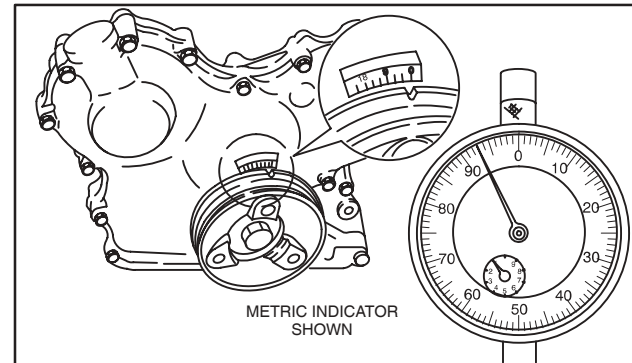

Fig. 10 – Verify Timing
4. To verify that timing is correct, rotate crankshaft counter-clockwise until dial indicator reads “0.” Then rotate crankshaft clockwise until timing mark on pulley aligns with reference point on gear case cover (TDC). Indicator should be within specification, Fig. 10.